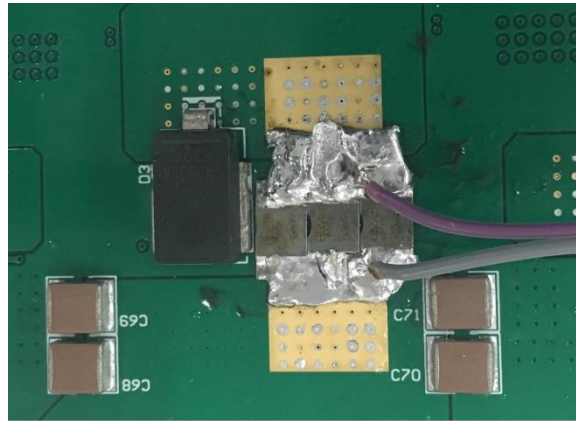

Figure 4: Current Sensing Resistor
- Bypass the breaker with the 1mΩ current sensing resistor as shown in Figure 4.